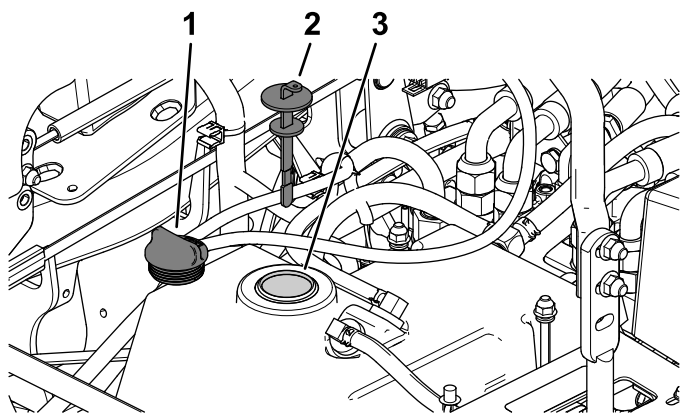

Figure 1
5. Remove the hydraulic-tank cap (Figure 1).
6. Remove the dipstick and wipe it with a clean rag (Figure 1).